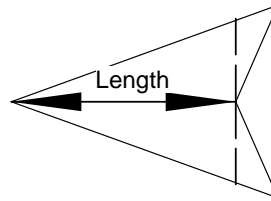

Figure 2: Quadrilateral boundaries
- The quadrilateral boundary is always convex; in Figure 2 solid lines have been trimmed to dashed lines.